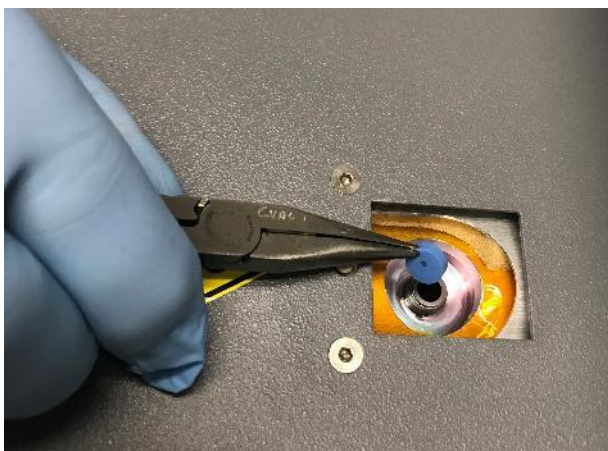

Figure 159. Remove the Septa from the Port.
STEP 6 | The old septa may stick to the port. Remove the septa using needle-nose pliers or similar tool, if necessary (**Figure 159**).